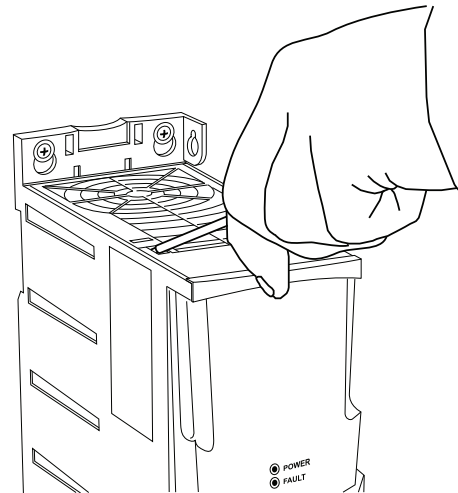

Fig. 42 — Remove Top Cover on ACS320 VFD
2. Insert a small straight blade screwdriver into the slot and press in to release the top cover as shown in Fig. 42.
2. Insert a small straight blade screwdriver into the slot and press in to release the top cover as shown in See Fig. 42 — on page 31.